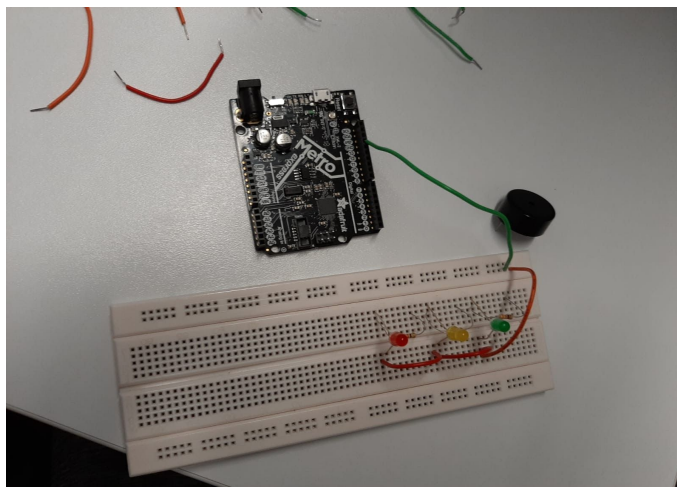

Figure 2: Connecting the bread board to the Metro Board
- 4.1. In the first stage, we attached the LEDs and the resistors to the breadboard. We then connected four wires. Three of the four wires connects the three LEDs' negative polarities together. The last wire connects all negative polarities to the Metro M0 ground pin (GND): as seen in Figure 2.